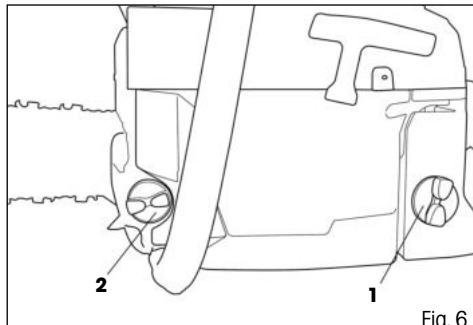

Fig. 6
- ❖ Screw off the oil tank cap (Fig. 6, point 1).
- ❖ Screw off the fuel tank cap (Fig. 6, point 2) and pour in the fuel. Then screw the cap back on.